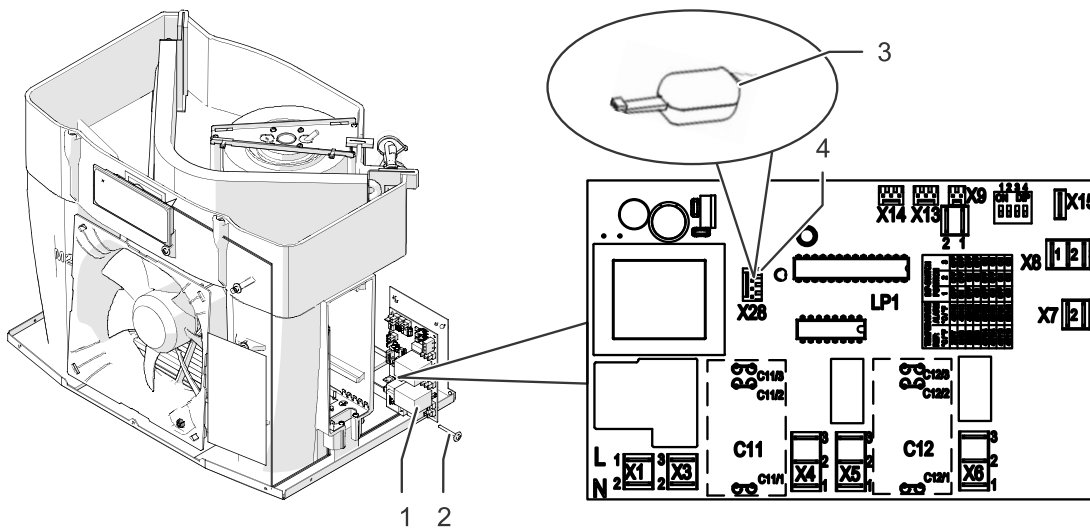

Fig. 26: Service interface
- The connection for the USB adapter (Fig. 26, item 3) to the interface is marked on the circuit diagram with the device tag X28 (Fig. 26, item 4).
2. Remove the plastic screw (Fig. 26, item 2).
3. Pull out the controller board (Fig. 26, item 1).
4. Connect the USB adapter (Fig. 26, item 3) to the service interface X28 (Fig. 26, item 4).